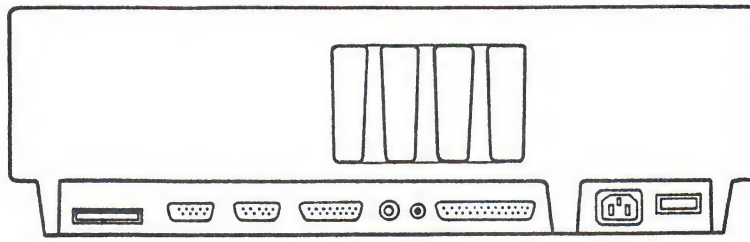

FIGURE 1
2. Disconnect all other external cables from the back of the Apple ///. (See Figure 1).